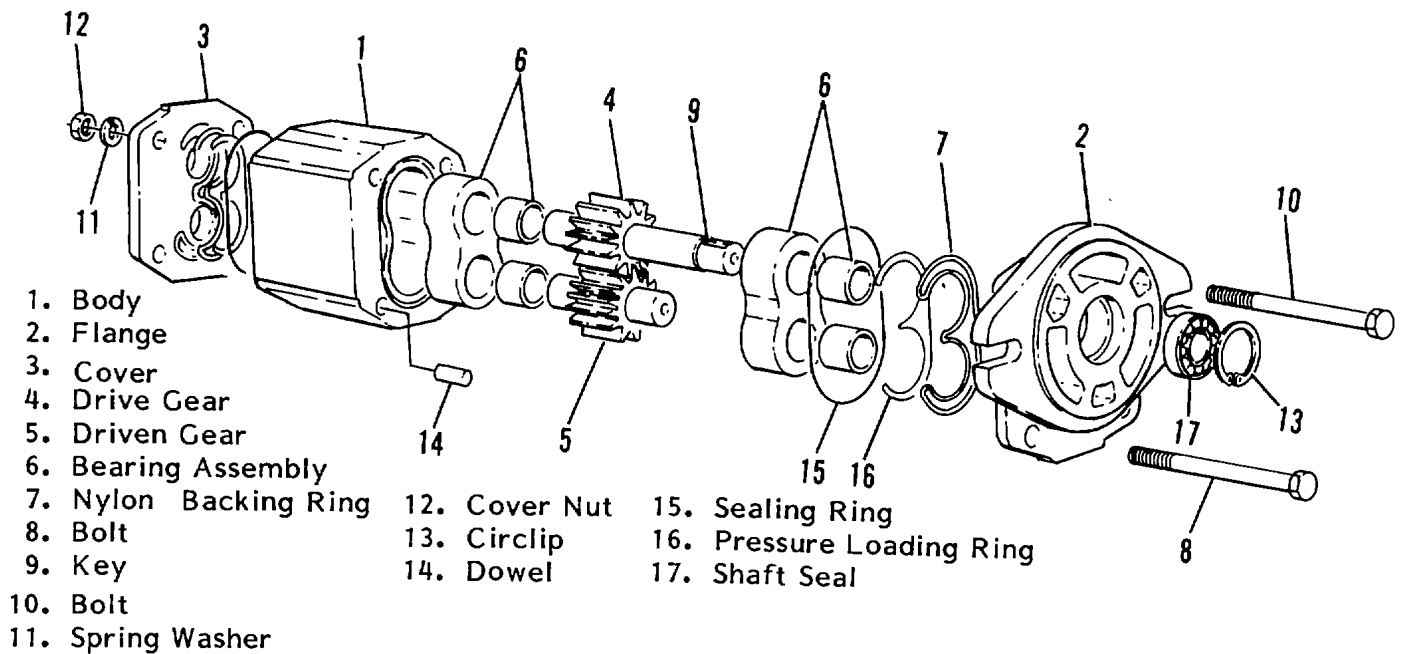

Figure 4-16. Hydraulic Gear Pump
4-6.4 Hydraulic Gear Pump. (Figure 4-16)
- a. Place the flange (2, figure 4-16), machined surface down, on a clean flat surface. Apply a little grease to the oil seal (17) and, with garter spring facing into pump, use a suitable tool to press seal into flange. Install retaining ring (13).
- b. Install the backing rings (7), loading rings (16) and seals (15) in flange (2) and cover (3), using a little light grease to aid their retention.
- c. Place the cover (3) in a soft jawed vise with machined face up. Be sure that dowels (14) are in place on body, then assemble body (1) to cover, ensuring that inlet side of body is correctly positioned.
- d. Lightly lubricate the body bore, both faces and bore of bearings (6).
- f. Insert the gears (4 and 5) into their respective bores in pump body (1).
- g. Place the flange end bearing (6) over the gear shaft and slide it into location with the recessed face toward gears and the relieved radii towards pump outlet.
- h. To avoid damaging seal (17), place a protective sleeve over the drive shaft and gently press the flange (2) down onto the pump body (1).
- i. Install the screws (8 and 10) and install lockwashers (12) and nuts (11).